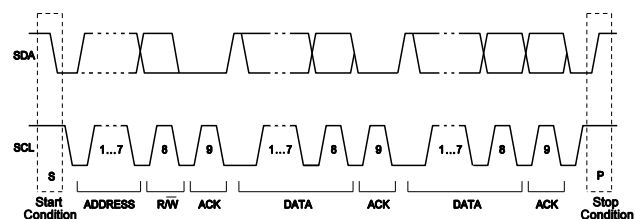

Figure 15: Complete Data Transfer
Figure 15 shows the format that data transfers follow. After the start condition, a slave address is sent. This address is 7 bits long, followed by an eighth data direction bit (R/W). A 0 indicates a write transmission (Wr), and a 1 indicates a read request for data (R). A data transfer is always terminated by a stop condition generated by the master. However, if the master still wishes to communicate on the bus, it can generate a repeated start condition and address another slave without first generating a stop condition.